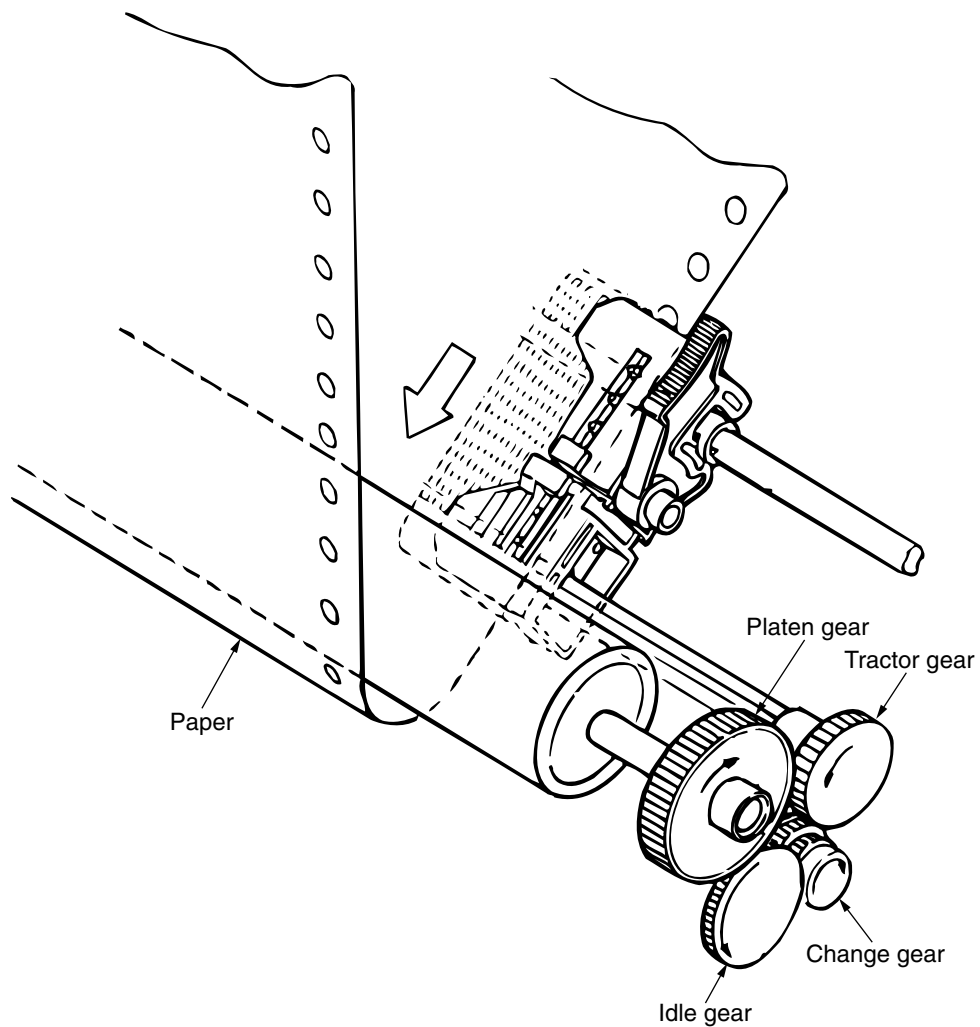

Figure 2-9
(3) Continuous paper feed operation (Rear) (See Figure 2-9.)